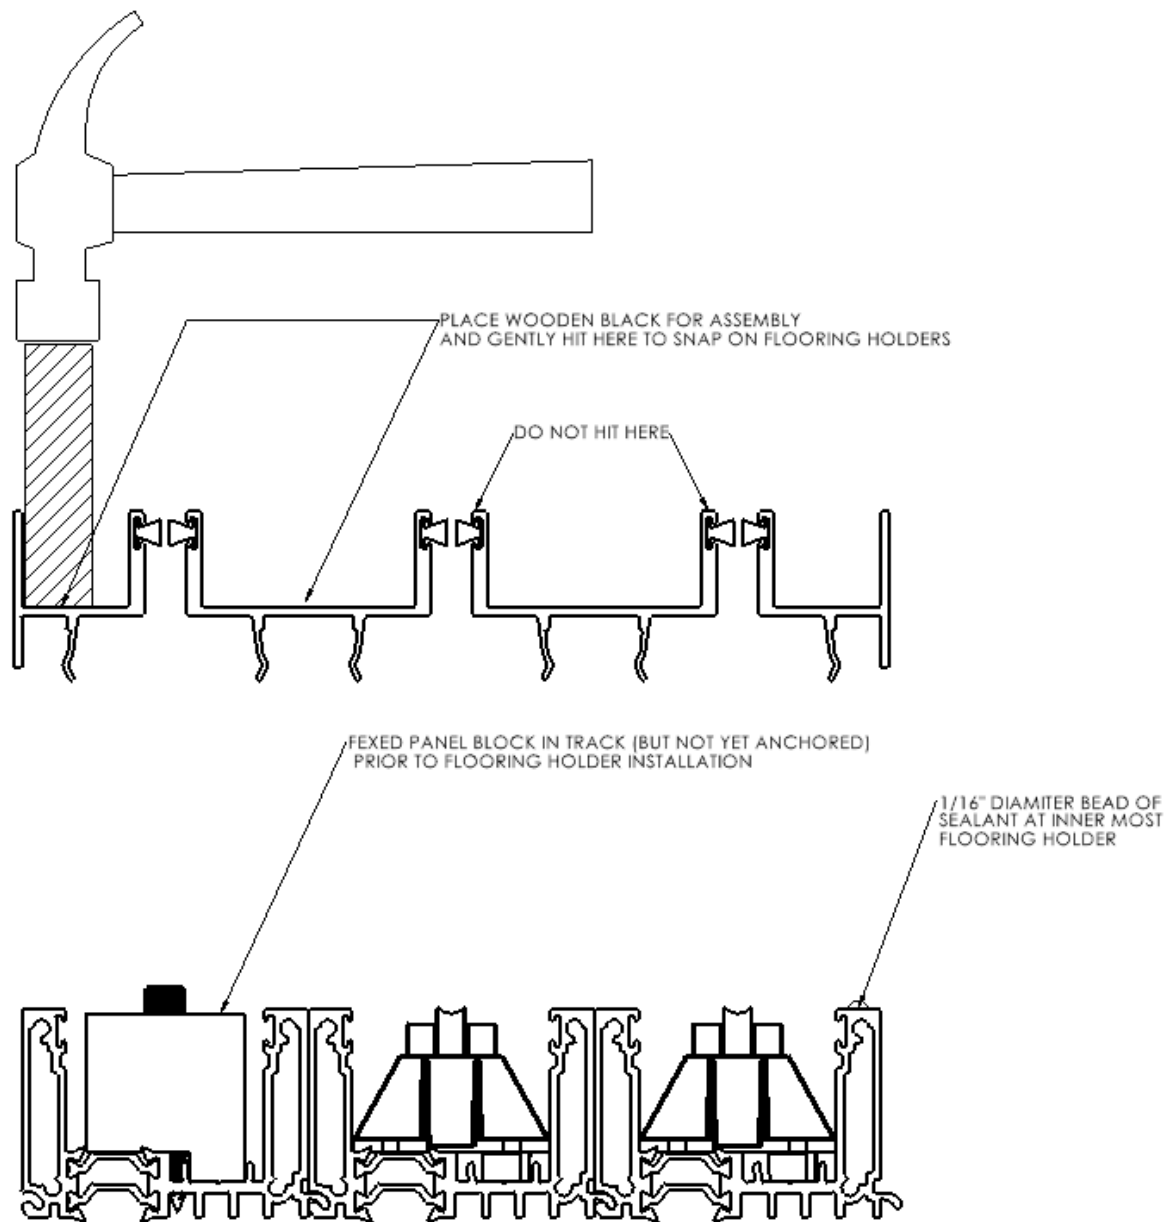

Figure 10
16. Snap the Flooring Holder extrusions onto the lower half of the sill with a block of wood and a hammer. Place the block of wood between the vertical legs of the flooring holder to avoid damage. Start at one end of the extrusion and slowly work down the length of the whole sill to avoid bending the flooring holders. The flooring holders can be ordered long to allow them to be cut to shorter lengths at installation to allow for easier service based on flooring types. See **Figure 10**.